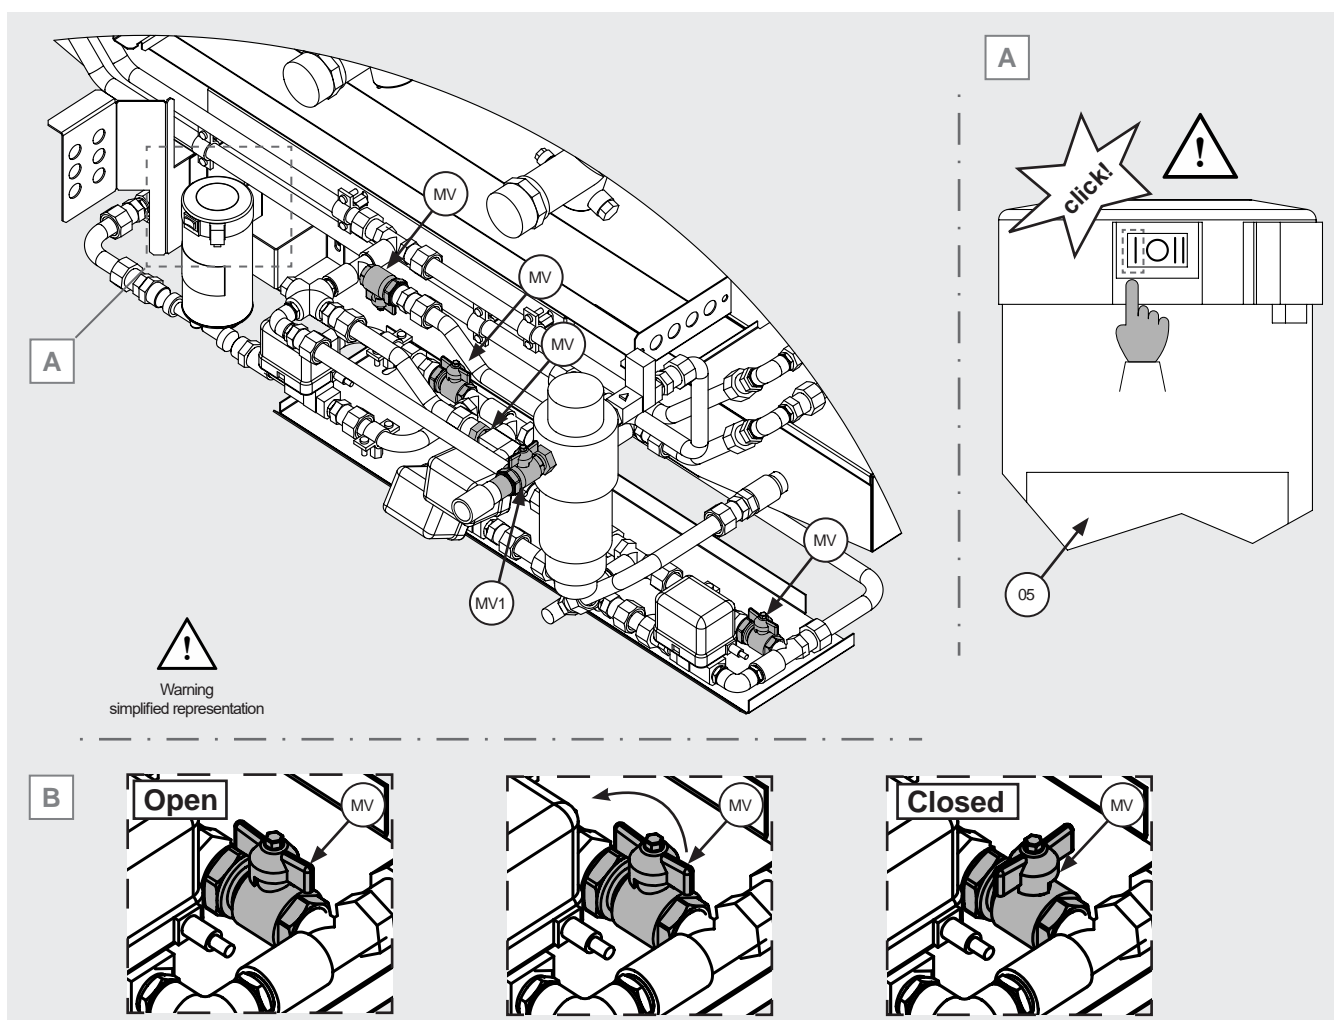

Figure 17
- 10.14 Manual valve (MV1) water inlet open, remaining manual valves (MV) closed, see Figure 17 B.
- 10.17 Ensure that the recovery pump switch, if present, is set to I. See detail A, Figure 17.